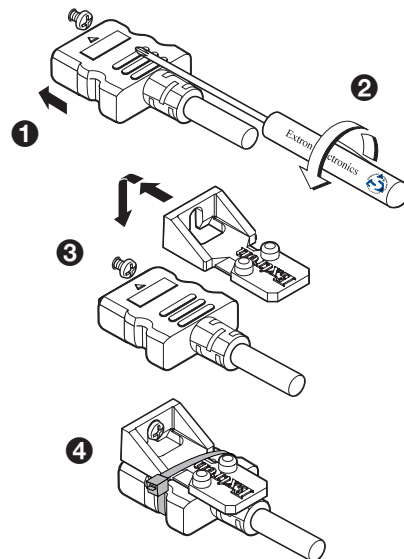

Figure 12. Top Mounting a LockIt Cable Lacing Bracket
- **HDMI Output 1A** — Top mounting (shown in figure 12, below)
1. Plug the HDMI cable into the panel connection (see **figure 12, ①** on the previous page).
2. Loosen the HDMI connection mounting screw from the panel enough to allow the LockIt lacing bracket to be placed over it (**②**). The screw does not have to be removed.
3. Place the LockIt lacing bracket on the screw and against the HDMI connector, then tighten the screw to secure the bracket (**③**).
5. While holding the connector securely against the lacing bracket, use pliers or a similar tool to tighten the tie wrap, then remove any excess length (see **figure 12, ④**).